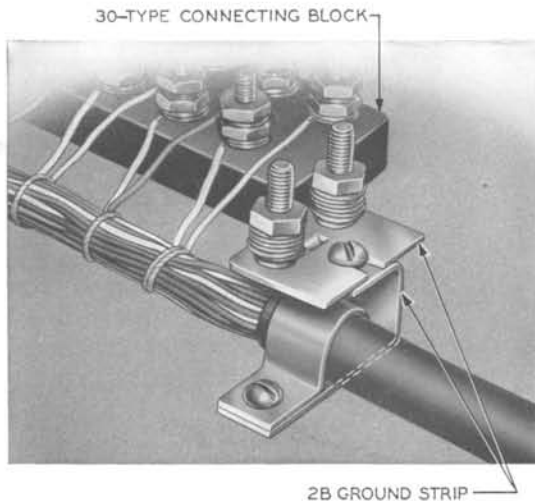

FIG. 10—METHOD OF INSTALLING 2B GROUND STRIP
**5.03** The 2B ground strip may be used in cable terminals where the 30- or 31-type connecting blocks are not mounted on 102-type adapters. The 2B ground strip is equipped with two binding posts, each having one nut and six washers (see Fig. 10).